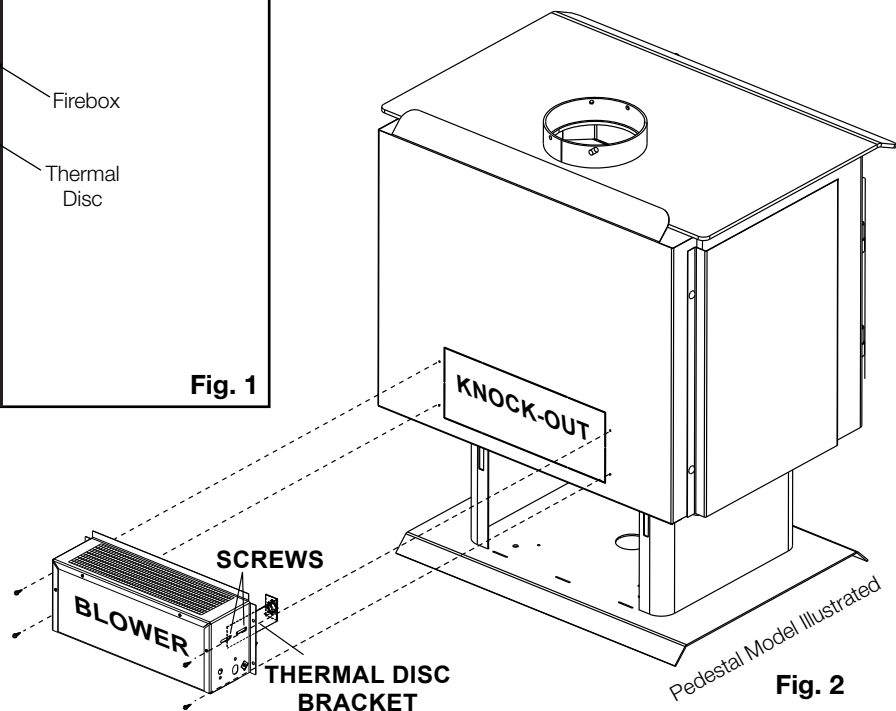

Fig. 2
3. Install the blower and housing as shown (**Fig. 2**) using 4 screws (supplied).